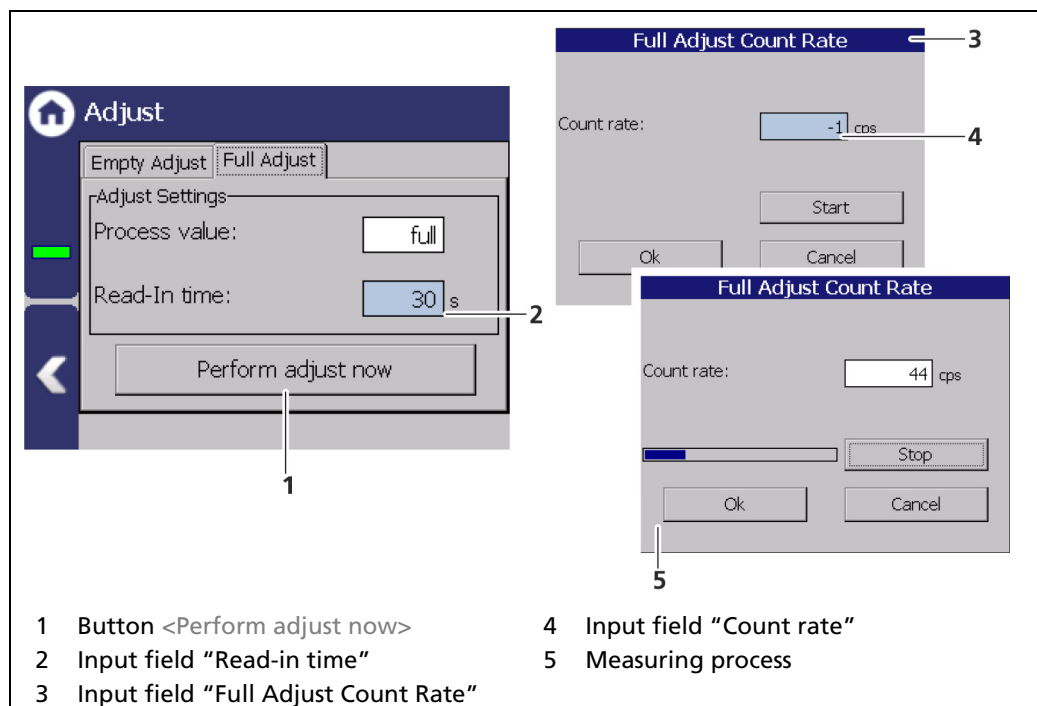

Fig. 72 Full Adjust
1. Click on the "Read-In time" field (Fig. 72, item 2) and specify the duration of measurement in seconds. The higher you set the time, the more accurate the result.
2. Click on the button <Perform adjust now> (Fig. 72, item 1).
- ▶ The window "Empty Adjust Count Rate" (Fig. 72, item 3) opens.
- ▶ The measurement starts (Fig. 72, item 5).